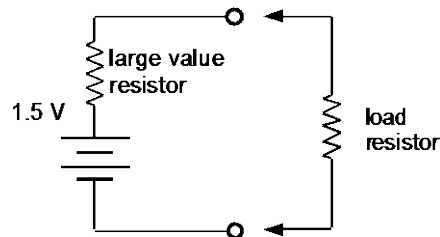

Figure 1-9
* Connect a 1.5 V battery and a large-valued resistor ($3.3 \text{ k}\Omega$ or higher) to make a current source. For a load resistor, use the resistor substitution box (choosing values ranging from 0.1 to 2.0 times the value of the large resistor), as shown in Figure 1-9.
* Examining Figure 1-9, use the potentiometer, instead of fixed resistors, to hook up the circuit. Be sure that you apply the *input* voltage across the two terminals that have a *fixed* resistance. The *wiper* of the potentiometer should be the output terminal in the middle-right of Figure 1-8. Observe the output voltage while turning the potentiometer. If the output voltage increases as you turn the knob clockwise, you are done; otherwise change one of the *output* connections.